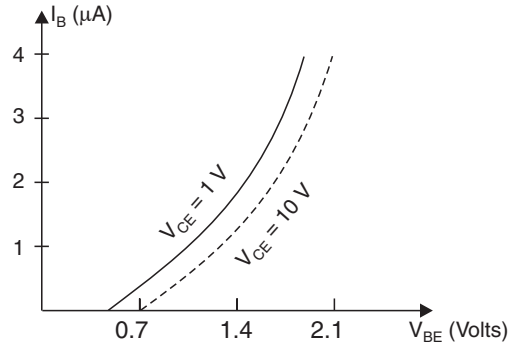

Fig. 45
1. **Input characteristic curves.** It is the curve between base current I_B and the base-emitter voltage V_{BE} at constant collector-emitter voltage V_{CE} (Refer to Fig. 45).